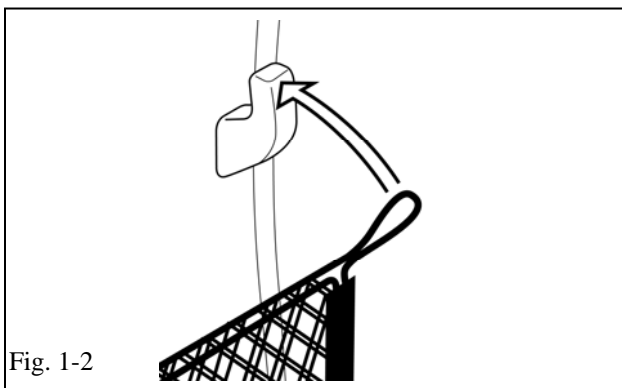

Fig. 1-2
- (c) Attach loop at the top of the net to the vehicle hook on the vehicle as shown (Fig. 1-2).